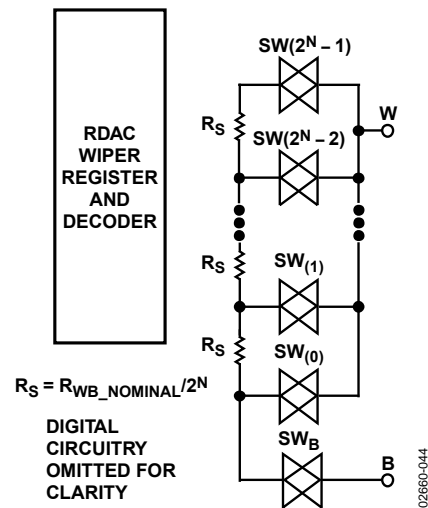

Figure 32. Equivalent RDAC Structure
The RDAC contains multiple strings of equal resistor segments with an array of analog switches that acts as the wiper connection. The number of positions is the resolution of the device. The ADN2850 has 1024 connection points, allowing it to provide better than 0.1% setability resolution. Figure 32 shows an equivalent structure of the connections among the three terminals of the RDAC. The SW_B is always on, while the switches, SW(0) to SW(2^N - 1), are on one at a time, depending on the resistance position decoded from the data bits. Because the switch is not ideal, there is a 30 Ω wiper resistance, R_w. Wiper resistance is a function of supply voltage and temperature. The lower the supply voltage or the higher the temperature, the higher the resulting wiper resistance. Users should be aware of the wiper resistance dynamics, if accurate prediction of the output resistance is needed.
The 10-bit data-word in the RDAC latch is decoded to select one of the 1024 possible settings. The following description provides the calculation of resistance, R_{WB} , at different codes of a 25 k Ω part. The first connection of the wiper starts at Terminal B for Data 0x000. $R_{WB}(0)$ is 30 Ω because of the wiper resistance, and it is independent of the nominal resistance. The second connection is the first tap point where $R_{WB}(1)$ becomes 24.4 Ω + 30 Ω = 54.4 Ω for Data 0x001. The third connection is the next tap point representing $R_{WB}(2)$ = 48.8 Ω + 30 Ω = 78.8 Ω for Data 0x002, and so on. Each LSB data value increase moves the wiper up the resistor ladder until the last tap point is reached at $R_{WB}(1023)$ = 25006 Ω . See Figure 32 for a simplified diagram of the equivalent RDAC circuit.